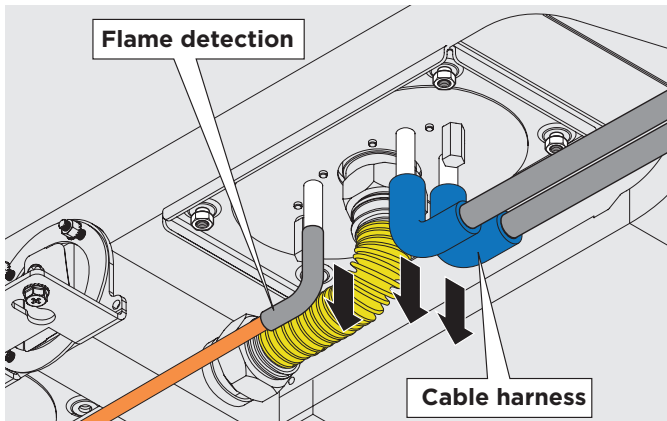

Figure 5
- a) Disconnect the cable harness of the ignition and flame detection electrodes (by pulling the connection down) as shown in Figure 5.